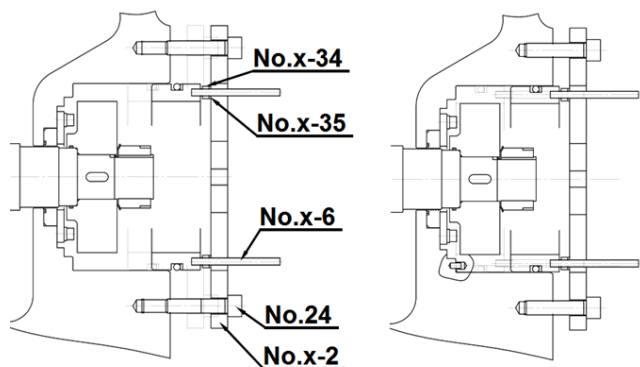

Figure 5-24 Special Tools for Balance Piston Sleeve(M) of GH250S/L
If it is impossible to install the balance piston sleeve (M) only with your hands, install it using the special tools (refer to Table 5-9) as shown in Figure 5-24.
- Attach special tools to the balance piston sleeve (M) with referring to Figure 5-24.
- See right side picture in Figure 5-24.